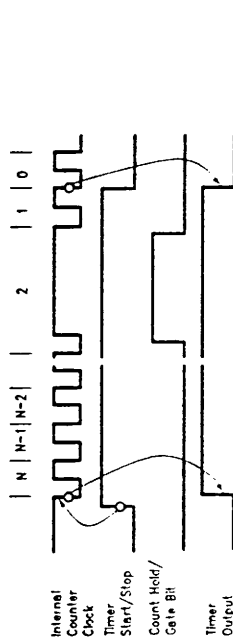

FIGURE 8. Typical Waveforms for Timer Mode 0 (Timer Output Programmed Active High)
of the input data registers are loaded into the timer. The output will stay high until the counter reaches zero. At zero the output is reset. The result is an output pulse whose duration is equal to the input clock period times the count value (N) loaded into the input data register. This is shown in Figure 8.